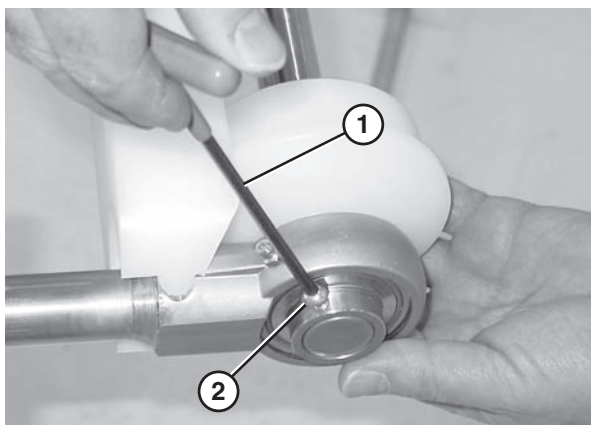

Figure 73
4. Use a hex wrench (Figure 73, item 1) to loosen the bearing shaft assembly fasteners (Figure 73, item 2).